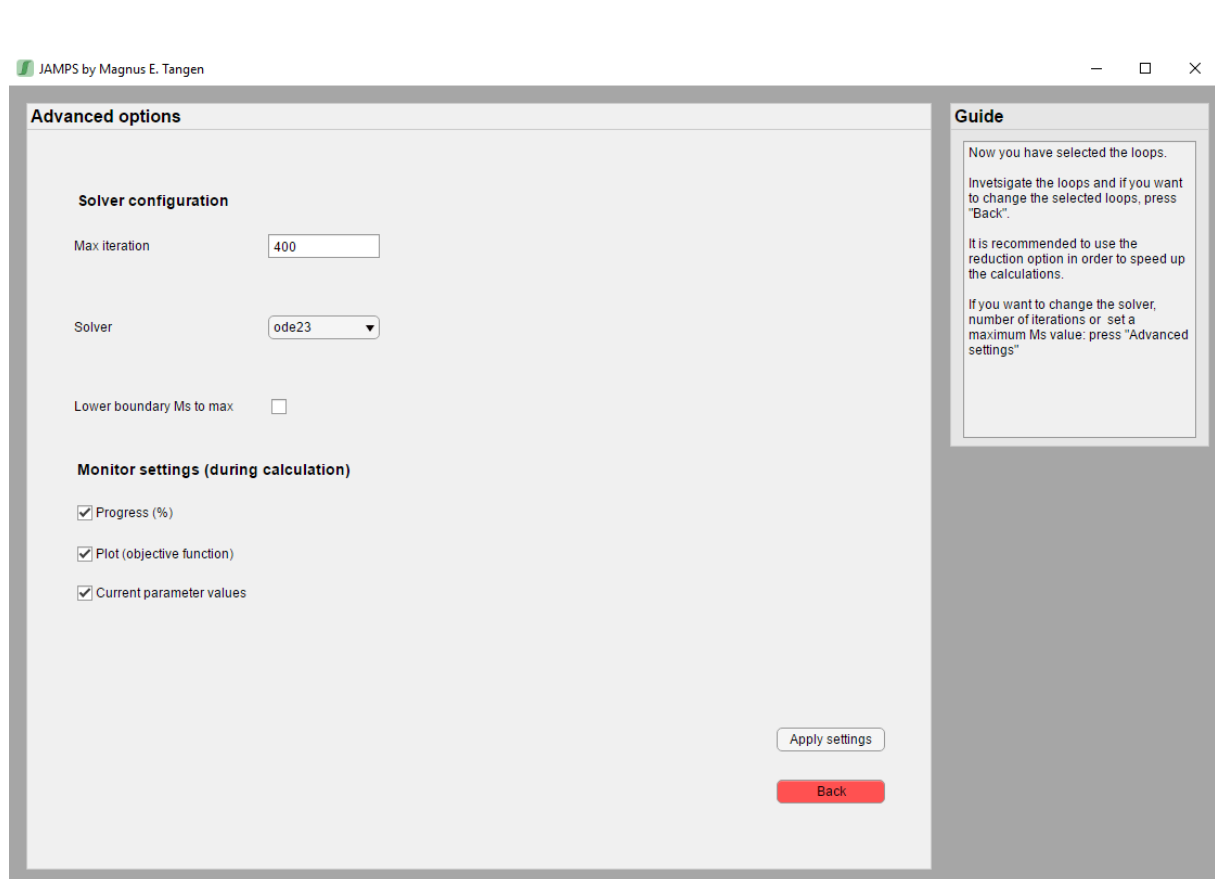

Figure 1.7: JAMPS manual - Advanced settings menu
- 3 'Advanced options' takes you to the advanced options menu, as seen in Figure 1.7.